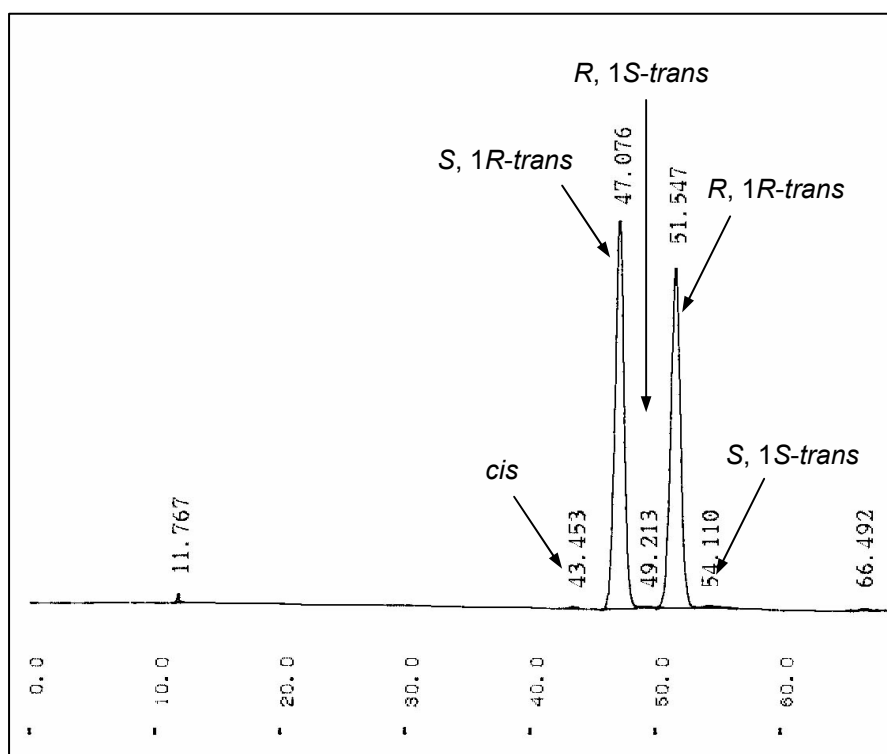

Fig. 11 HPLC chromatogram of bioallethrin working standard
2.2 HPLC. Use the HPLC method below. The retention time of bioallethrin for the sample solution should not deviate by more than 5% from that for the bioallethrin working standard solution and the intensities of the bioallethrin isomers should give the same pattern as in the working standard solution (Fig. 11).